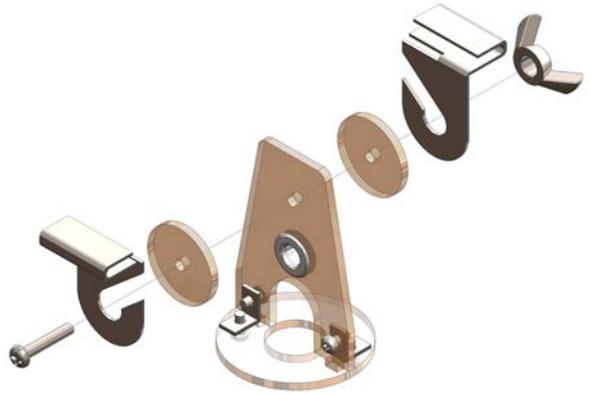

Figure 11
2. Slide them onto the machine screw in this order (Figure 11):